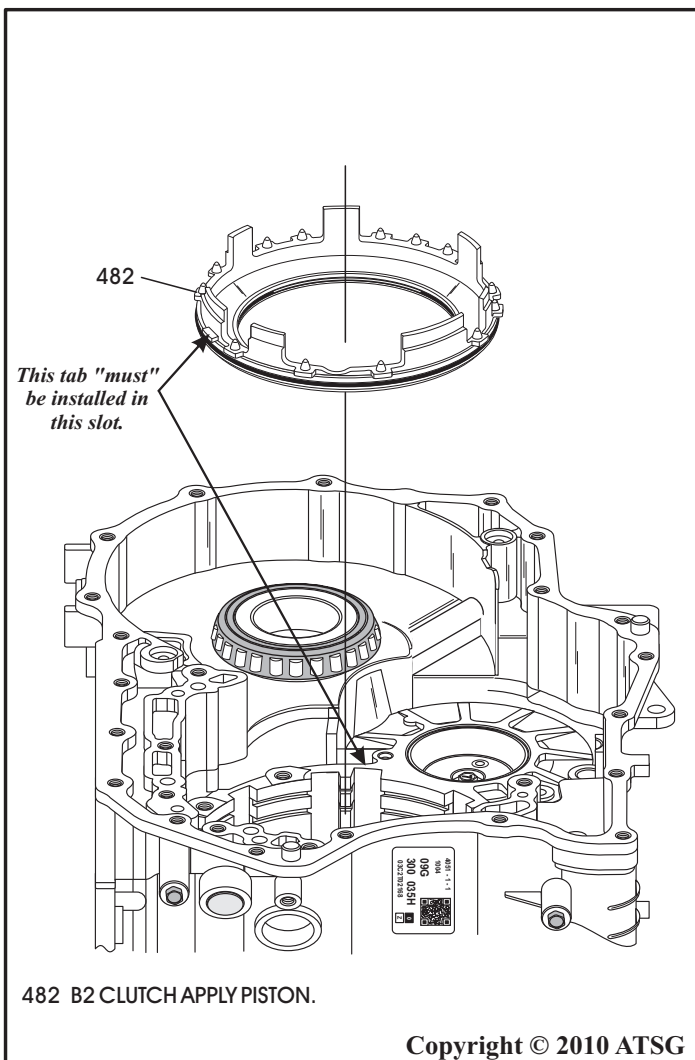

Figure 93
8. Install the B2 clutch apply piston into the case, as shown in Figure 93.
Note: This piston must be oriented properly as it installs in one direction only. The piston tab without spring seal must be installed into slot as shown in Figure 93.